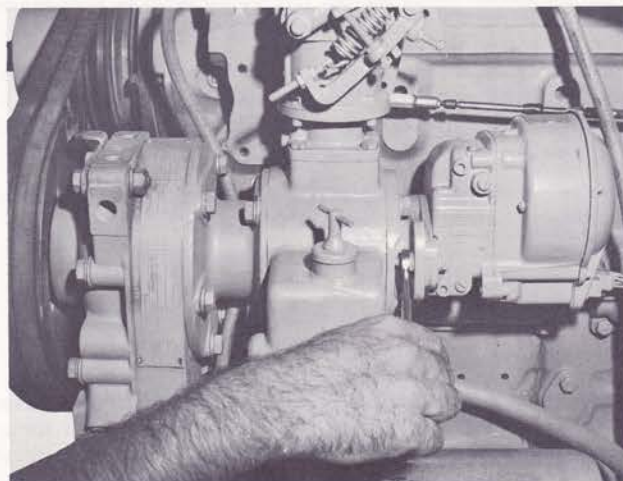

Fig. 4-4. Removing Mag-tronic
3. Remove nuts, capscrews, flatwashers and lockwashers securing "Mag-tronic" to drive housing. Fig. 4-4. Lift "Mag-tronic" from drive assembly.